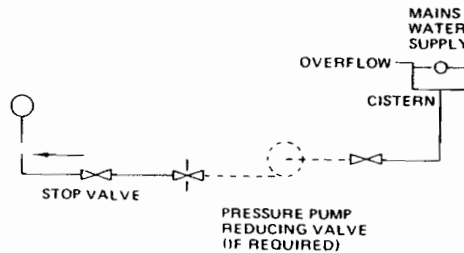

FIG 7. FULLY PUMPED SEALED SYSTEM
- ii) where access to a make-up vessel would be difficult by using the mains top up method or a remote automatic pressurisation and make-up unit as illustrated in FIG. 7 METHODS 1 and 2.
The system shall be fitted with a filling point at low level which incorporates a stop valve to BS1010 and a double check valve (approved by the National Water Council) to be fitted in this order from the system mains, Refer to FIG. 7. Method 1.